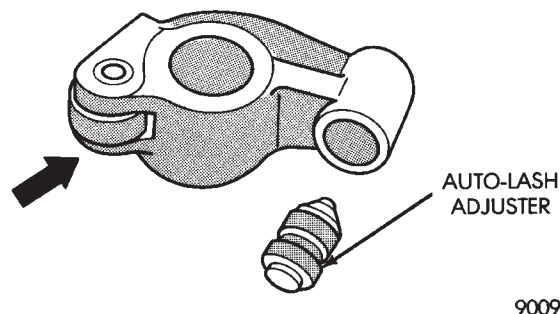

Fig. 6 Inspect Rocker Arms
- (1) Check rocker arms for wear or damage (Fig. 6). Replace as necessary. Also see Auto Lash Adjuster.